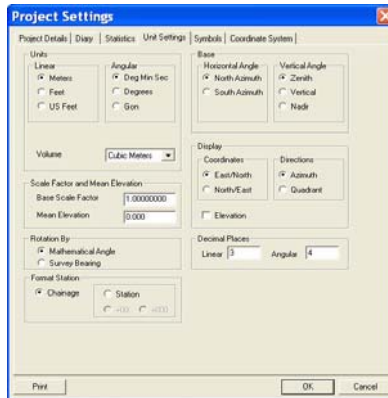

Figure 8-7. Program Settings – Unit Settings Tab
2. On the **Unit Settings** tab (Figure 8-7 on page 8-8), modify each field as necessary. For field descriptions, see Table 8-2 on page 8-15.